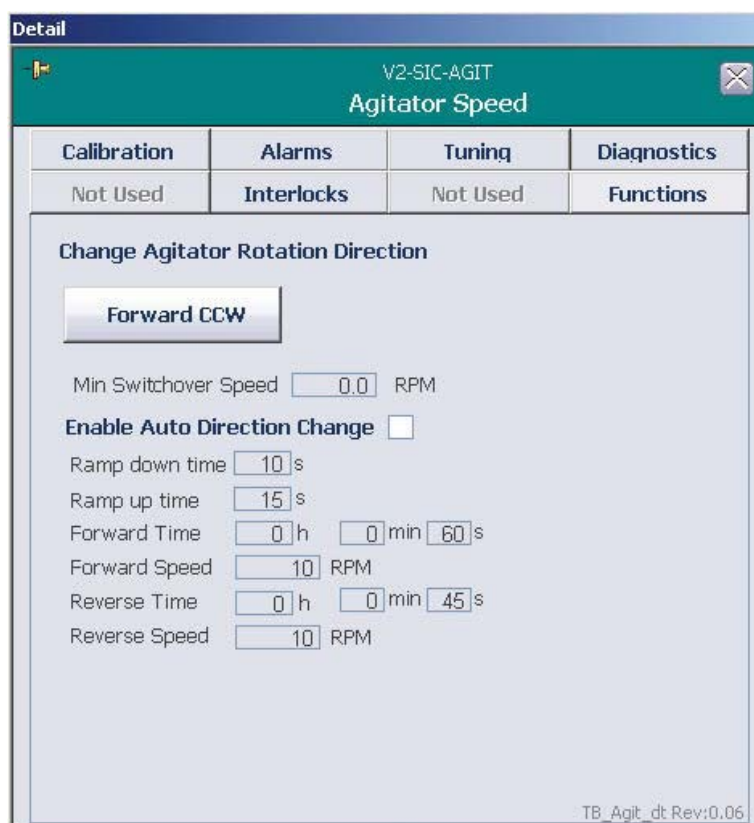

Figure 4.25. Agitator detail window.
1. Open the Agitator faceplate and click **Detail** to open the “Detail” window. Then click the **Functions** tab (Figure 4.25).